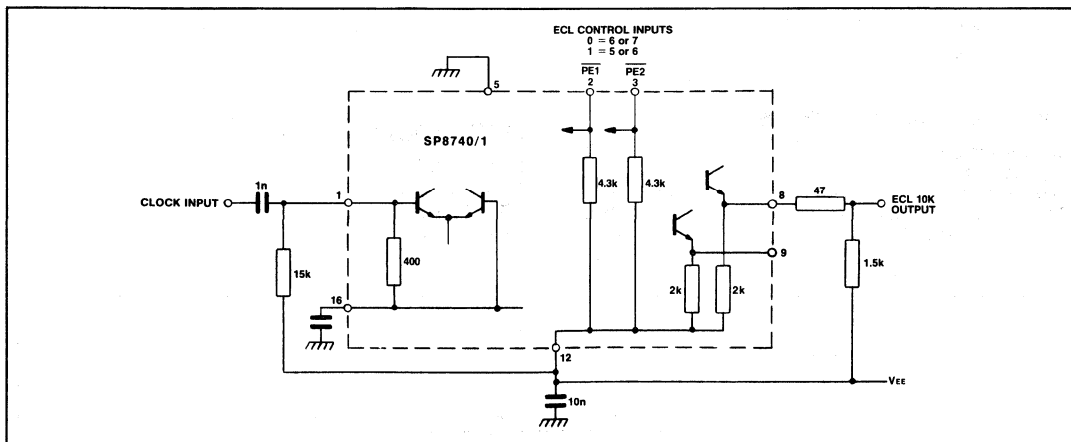

Fig.9 Typical applications circuit showing interfacing
4. The Q and  $\bar{Q}$  outputs are compatible with ECL II but can be interfaced to ECL 10K as shown in Fig. 9. There is an internal circuit equivalent to a load of 2k pull-down resistor at load output.